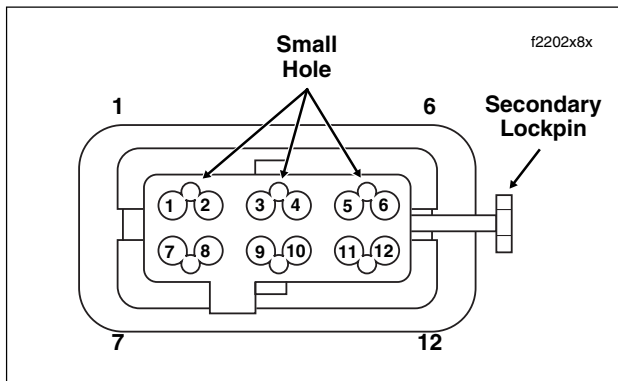

Figure B-28. Mating End of Connector
2. Locate the head of the secondary lockpin on one side of the connector housing. See Figure B-28.
- a. Locate small hole between terminals on mating end of connector. See Figure B-28.
For wire location purposes, the corners of the socket housing are stamped with the numbers 1, 6, 7 and 12, representing terminals 1-6 on one side, and 7-12 on the other. See Figure B-28.